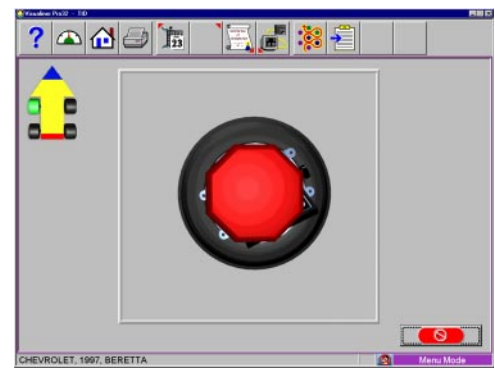

Figure 3-47
8. Once the wheel has reached the desired location a stop sign will appear in the center of the wheel. Hold the wheel steady as the aligner will take a reading. (Figure 3-47)